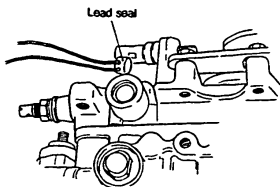

Fig. 7 Installing the lead seal
5. Fit the lead seal on the wire. (Fig. 7)